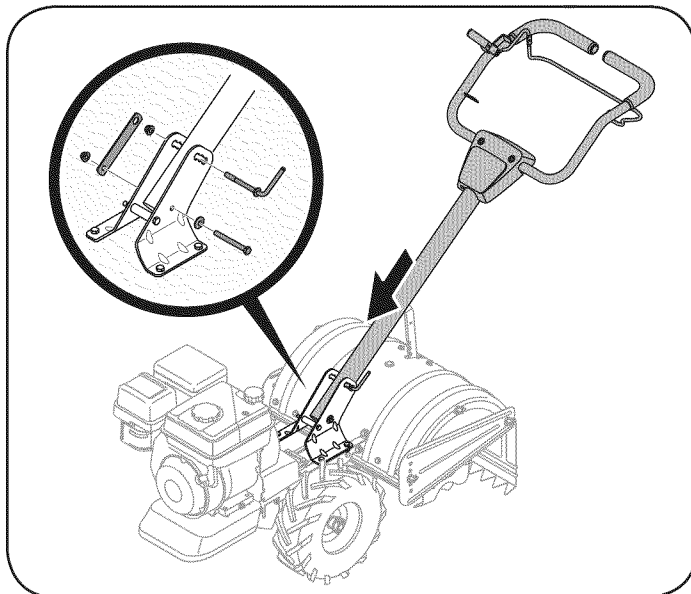

Figure 1
1. Install the handle onto the tiller using the hardware pre-installed on the handle mounting brackets. This consists of a 5/16-18 x 3.00" hex bolt, a handle crank assembly, retainer bracket and two 5/16-18 flange lock nuts. Remove this hardware from the handle mounting brackets on the tiller. Refer to Figure 1 inset.
2. Insert the handle into the handle mounting brackets, lining up the pre-drilled holes. Insert the 5/16-18 x 3.00" hex bolt in the bottom hole from the left hand side through to the other side. Place the round hole end of the hex retainer bracket over the hex bolt and secure loosely with a bell washer and 5/16-18 flange lock nut removed earlier. Refer to Figure 1 inset.
3. Install the handle-crank adjustment rod into the top hole of the mounting bracket from the left hand side of the handle assembly, secure with the other flange lock nut previously removed. Fit the hex end of the retainer bracket over the flange lock nut. See Figure 1.